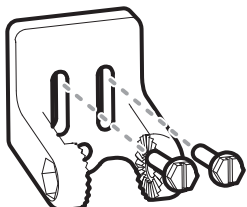

Figure 20
4. Align the mounting bracket transducer assembly with the drilled holes in the transom. With a 5/16" socket driver, mount the assembly to the transom using the two #10 - 1" long screws provided (Figure 20). **Hand tighten only!**